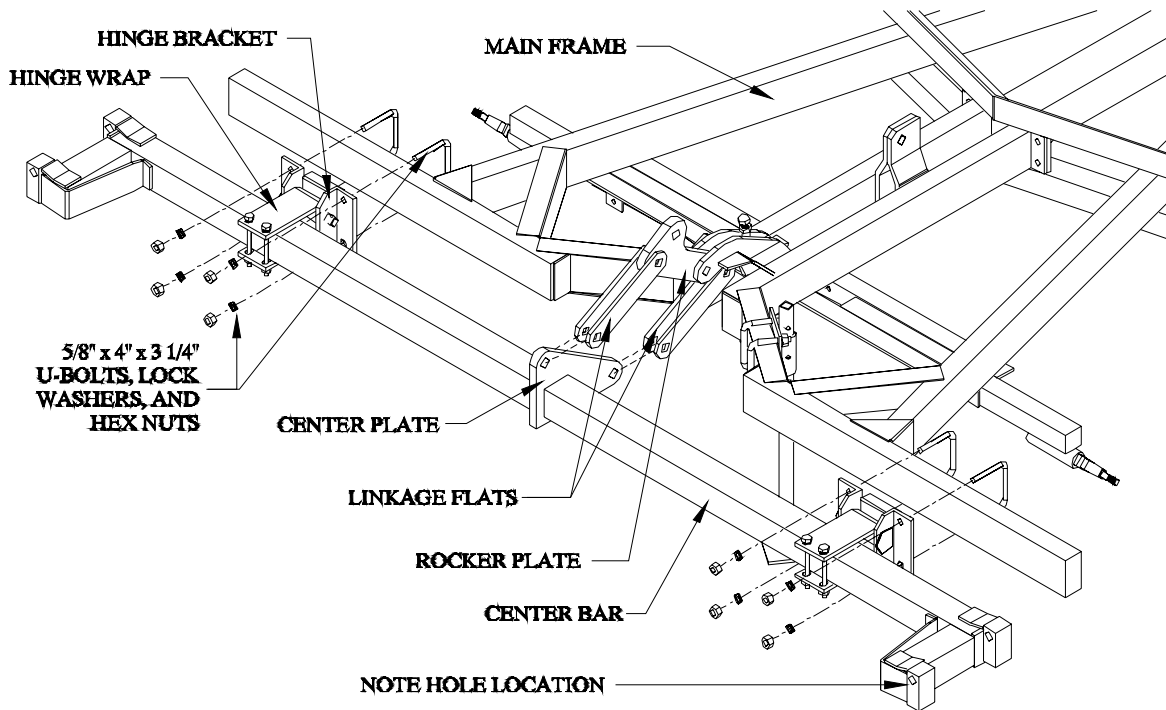

Figure 4
1. Hold the assembly against the rear cross bars of the main frame and clamp in place with four 5/8" x 4" x 3 1/4" U-bolts, lock washers, and hex nuts. Because further alignment may be necessary, do *not* completely tighten the U-bolts yet. Be sure that the center bar assembly is centered on the main frame and that the holes in the hinges at the ends of the assembly are towards the top. Refer to Figure 4.